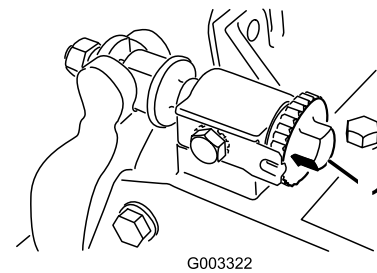

Figure 22
1. Loosen reel to bedknife contact by turning the bedknife adjusting knobs (Figure 22) counterclockwise until no contact exists.